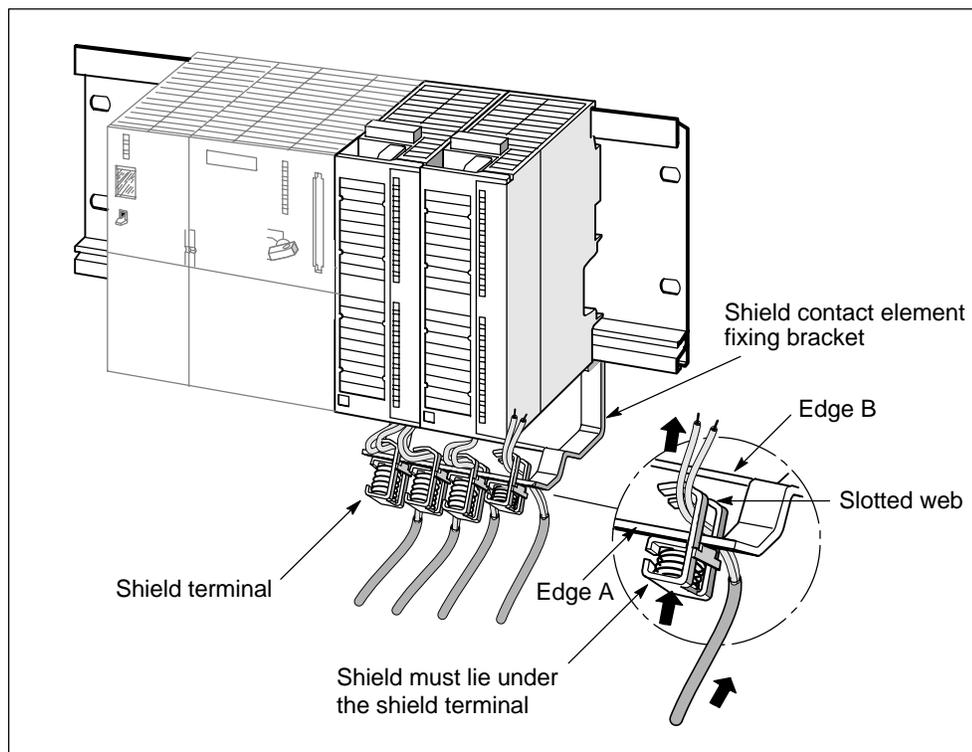

Figure 4-6 Attaching Shielded Cables to Shield Contact Element
3. The shield terminal has a slotted web on the bottom side. Place the shield terminal at this position onto edge A or edge B of the fixing bracket. Press the shield terminal down and swing it into the desired position (see Figure 4-6).
You can only attach one or two shielded cables per shield terminal (see Figure 4-6 and Table 4-3). The cable is connected by its bare cable shield. There must be at least 20 mm (0.78 in.) of bare cable shield. If you need more than 4 shield terminals, start wiring at the rear row of the shield contact element.